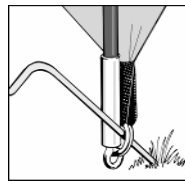

Figure 2.
- Peg out **ALL** peg points including rings as **figure 2**, and peg out **ALL** guy lines.